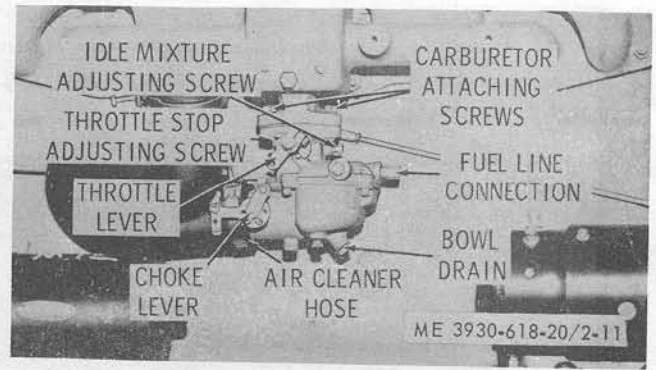

Figure 2-11. Carburetor, installed view.
*a. Removal.* Refer to figure 2-11, and remove the carburetor as follows:
- (1) Remove the left side panel.
- (2) Remove the air cleaner (para 2-16) and the connecting hose.
- (3) Disconnect the fuel inlet line at the carburetor.
(5) Disconnect the choke control cable at the carburetor (fig. 2-11).
(6) Remove the 2 nuts and lockwashers securing the carburetor to the intake manifold and remove the carburetor.
(1) As initial adjustments, before starting the engine, turn the idle stop screw (fig. 2-11) in against the stop to hold the throttle slightly open and set the idle mixture adjustment screw at approximately midposition.
(2) Turn the idler speed adjustment screw (fig. 2-11) in against the stop to hold the throttle slightly open. Set the idle mixture adjustment screw at approximately midposition.
(3) Start the engine and allow it to warm up to normal operating temperature.
(4) Gradually turn the idle mixture adjustment screw in until the engine begins to miss; then turn it out until the engine begins to run unevenly.
(5) Turn the idle mixture adjustment screw in to a point midway between the two points reached in (4) above or until the engine runs smoothly.
(6) With the idle stop adjustment screw, set the idle speed at 500 to 550 rpm.
(7) Readjust the idle mixture as necessary to achieve smooth engine operation at normal idle speed.